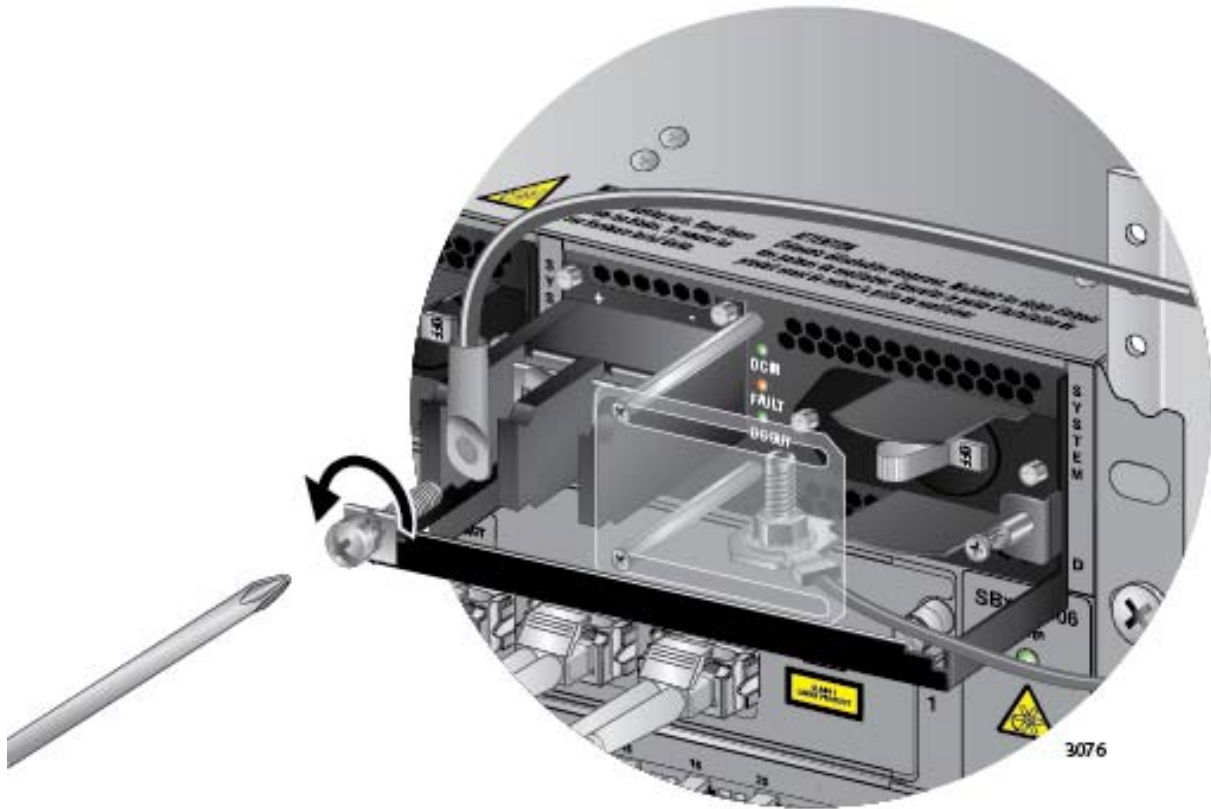

Figure 174. Removing the Positive Lead Wire from the Terminal Block
6. Use a #3 screwdriver to remove the positive (+) lead wire from the terminal block. Refer to Figure 174 on page 290.